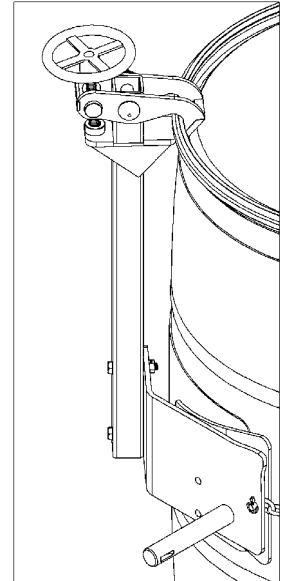

Figure 2.2
- To handle a 55-gallon plastic drum with suitable top rim, you **must** install either the Bracket Assembly or the Top Rim Clamp (Part # 4560-P) (see figure 2.2). You can use the Top Rim Clamp to handle a 55-gallon plastic, steel or fiber drum with suitable top rim.